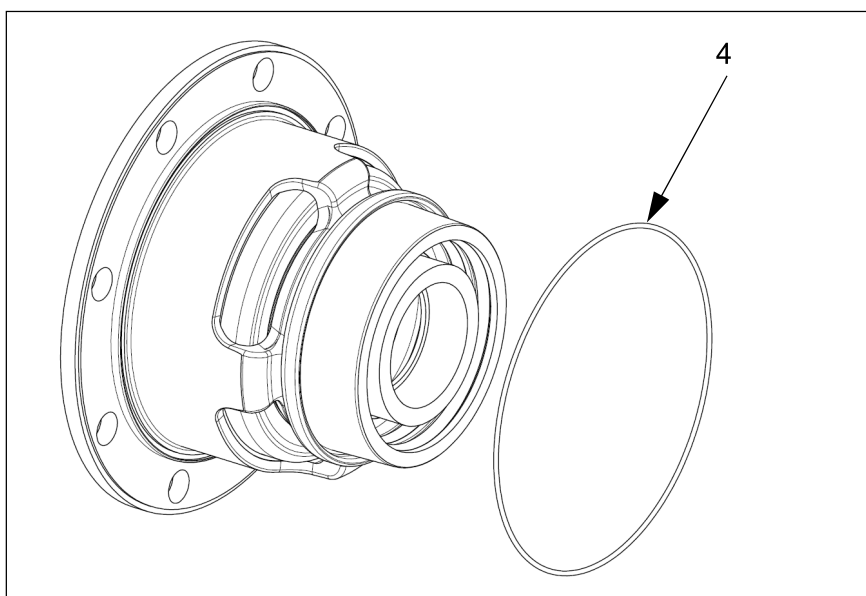

Fig. 15:
5. Place the valve on the discharge pipe; make sure that the O-ring (4, Fig. 15) is not pinched.